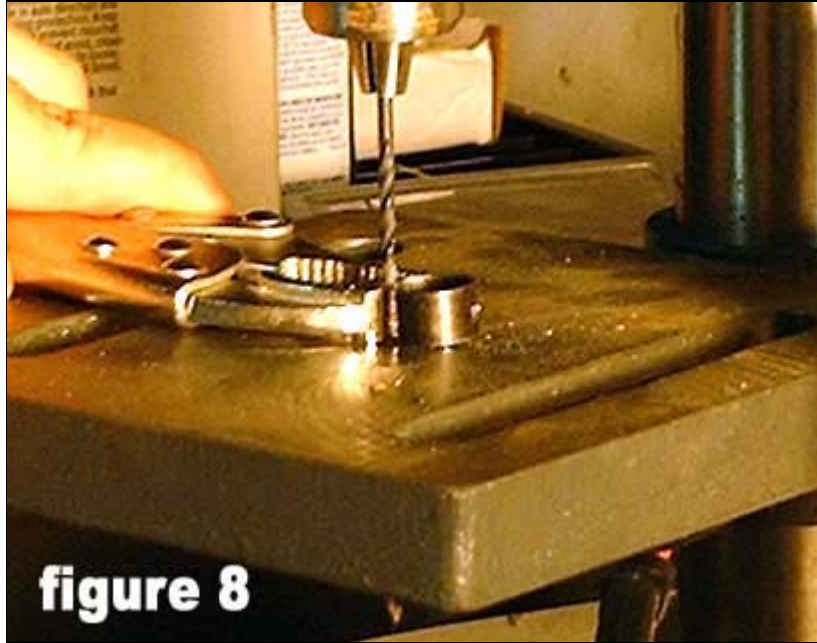

figure 8
4) For the second hole (**figure 8**): working from the front or rear of the sight, center punch the position of the second hole exactly in the center of the area between the bottom of the hood and the base of the sight. Using a #31 drill drill this hole in the position made by the center